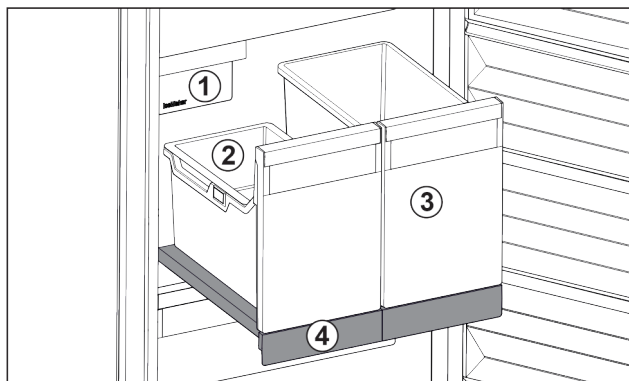

Fig. 29 Pull-out board with IceTower
- (1) IceMaker
- (2) Hang-on tray for ice cubes
- (3) Container for pizza or alcoholic beverages, for example
- (4) Pull-out board
On the pull-out board are two tall containers (IceTower). Ice cubes from the IceMaker are collected and stored in the container Fig. 29 (2). The container Fig. 29 (3) is suitable for storing tall foodstuffs or beverages such as pizzas or alcoholic drinks.